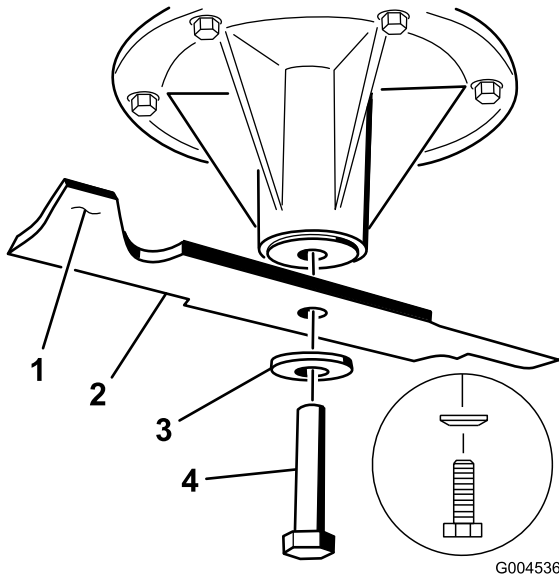

Figure 102
blade is not balanced, file some metal off the end of the sail area only (Figure 102). Repeat this procedure until the blade is balanced.
1. Install the blade onto the spindle shaft (Figure 102).
2. Install the spring disk and the blade bolt. The spring disk cone must be installed toward the bolt head (Figure 102). Torque the blade bolt to 115 to 150 N-m (85 to 110 ft-lb).